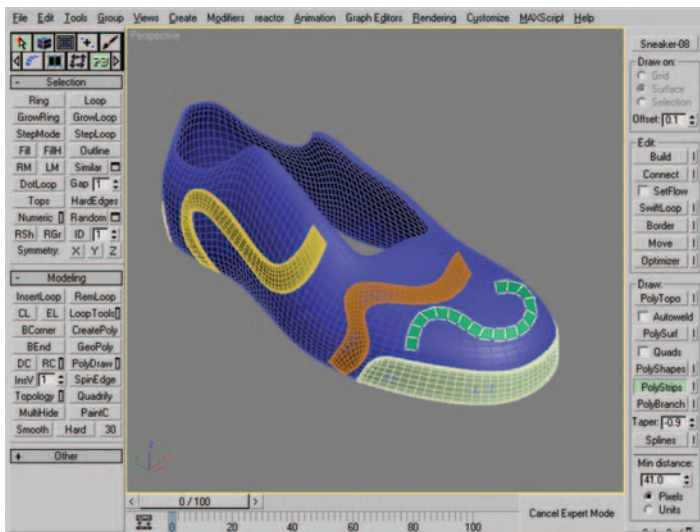

Figure 12.44 Green strip of polygons created with the PolyStrips tool.
2. Click on the PolyStrips button. Draw on the surface of the sneaker object, creating a strip of polygons as you go. That's all there is to this tool; it is both simple and effective in many cases. Figure 12.44 shows the strip of polygons created with the PolyStrips tool.